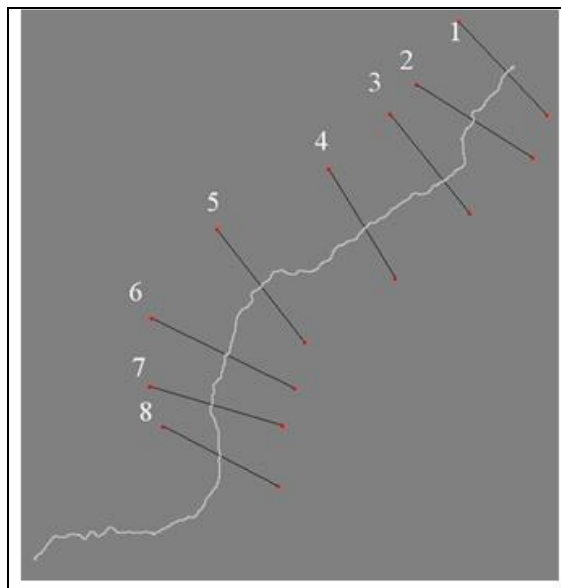

Figure 2-4: Cross Sections on Stream Arc.
16. Using the **Create Feature Arc**  tool, create eight cross sections as shown in Figure 2-4